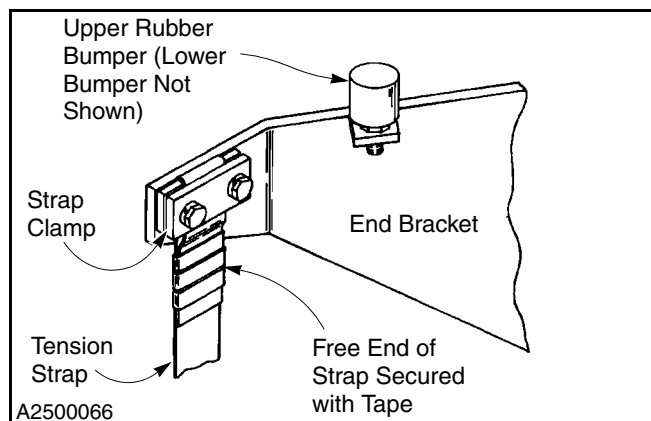

Figure 27
4. Check the rubber bumpers on each end bracket. The bumpers must be in place and tightly secured to the top and bottom of each bracket. Replace if necessary. (See Figure 27.)